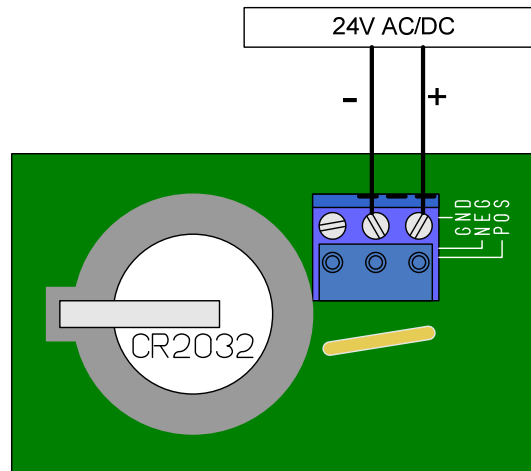

Figure 3: TELSEC[®] ESB Connector for Low Voltage Connection
Step 7: Connect the low voltage 24VAC power from the power supply's 40VA output to the TELSEC[®] ESB input power connector using 18AWG minimum stranded wire (Figure 3).